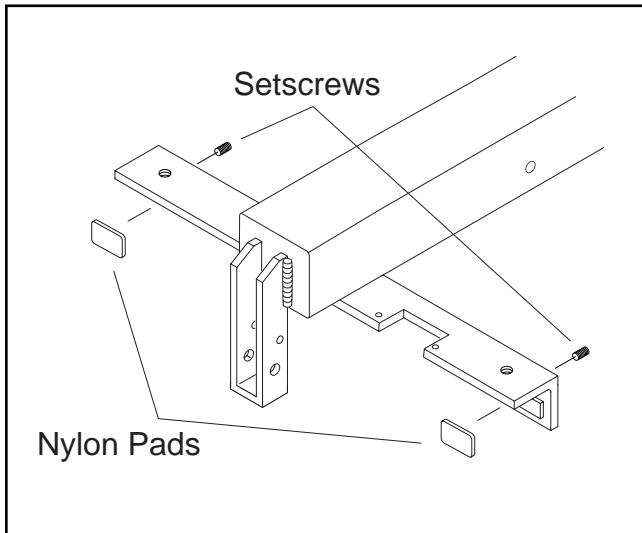

Figure 28. Setscrew adjustments.
2. Remove the fence from the saw and adjust the setscrews equally on the rear side of the front bracket as shown in **Figure 28**.
2. Remove the fence from the saw and adjust the setscrews on the rear side of the front bracket as shown in **Figure 28**. Make very minor adjustments and recheck by reclamping the fence along the miter slot after each adjustment. Keep in mind that a small turn of the setscrew can make a large difference over the length of the fence. Be sure clamping pressure is still adequate.